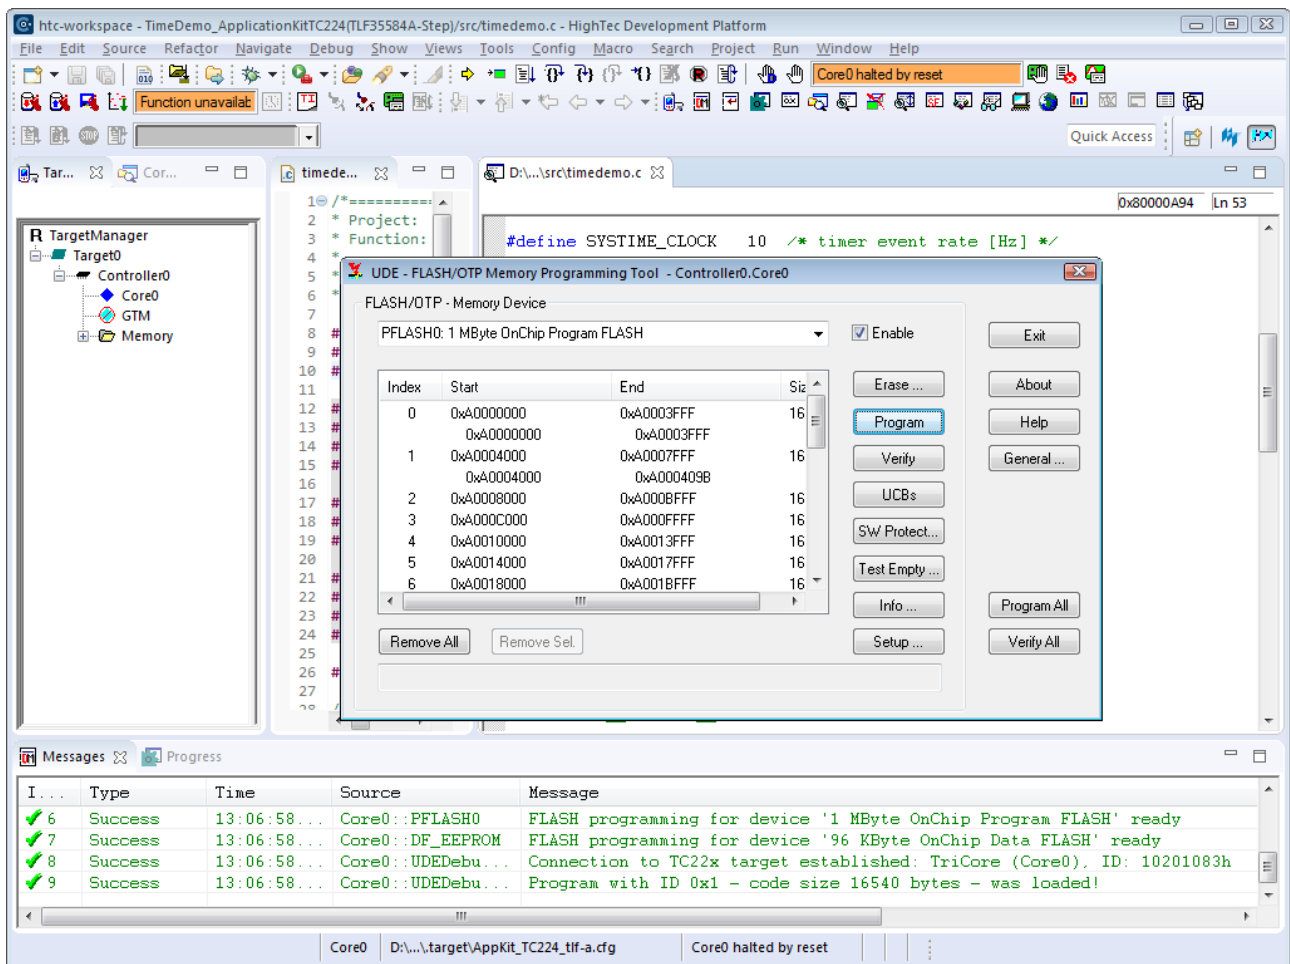

Figure 36 UDE Memory Programming Tool
6. If you built an **iROM** version of your application, the **UDE Memory Programming Tool** will appear after launching the **UDE perspective** (Figure 36).